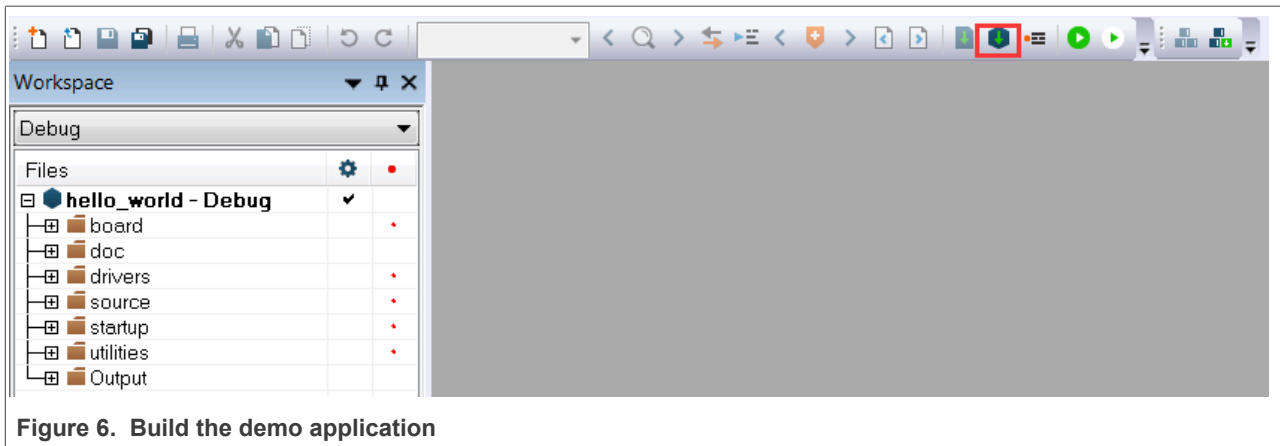

Figure 6. Build the demo application
3. To build the demo application, click **Make**, highlighted in red in Figure 6.